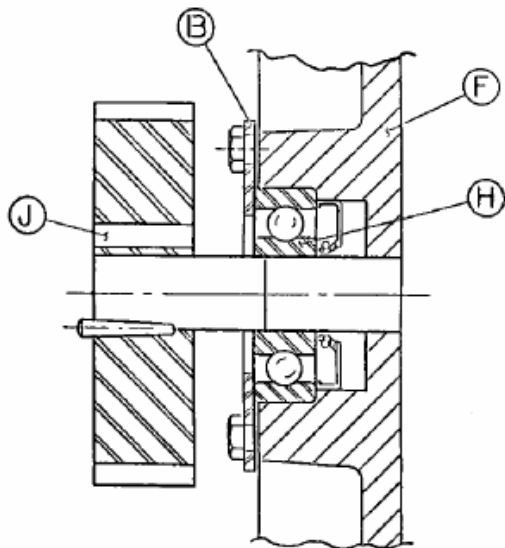

FIGURE 7-6
Refer to FIGURE 7-6, page 33. The outer races of the gear end bearings are clamped against the headplate (F) by the bearing retainer (B).